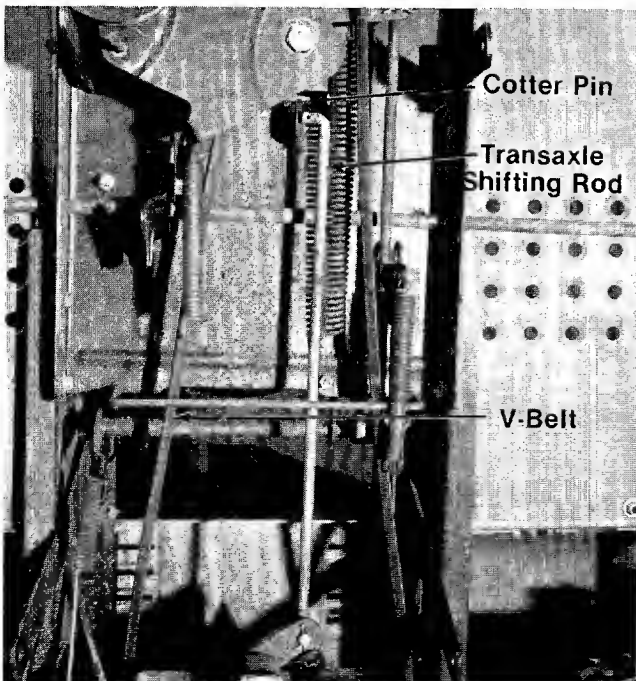

FIGURE 27.
9. Remove the cotter pin from the transaxle shifting rod and pull it out of the bracket. (See figure 27.)